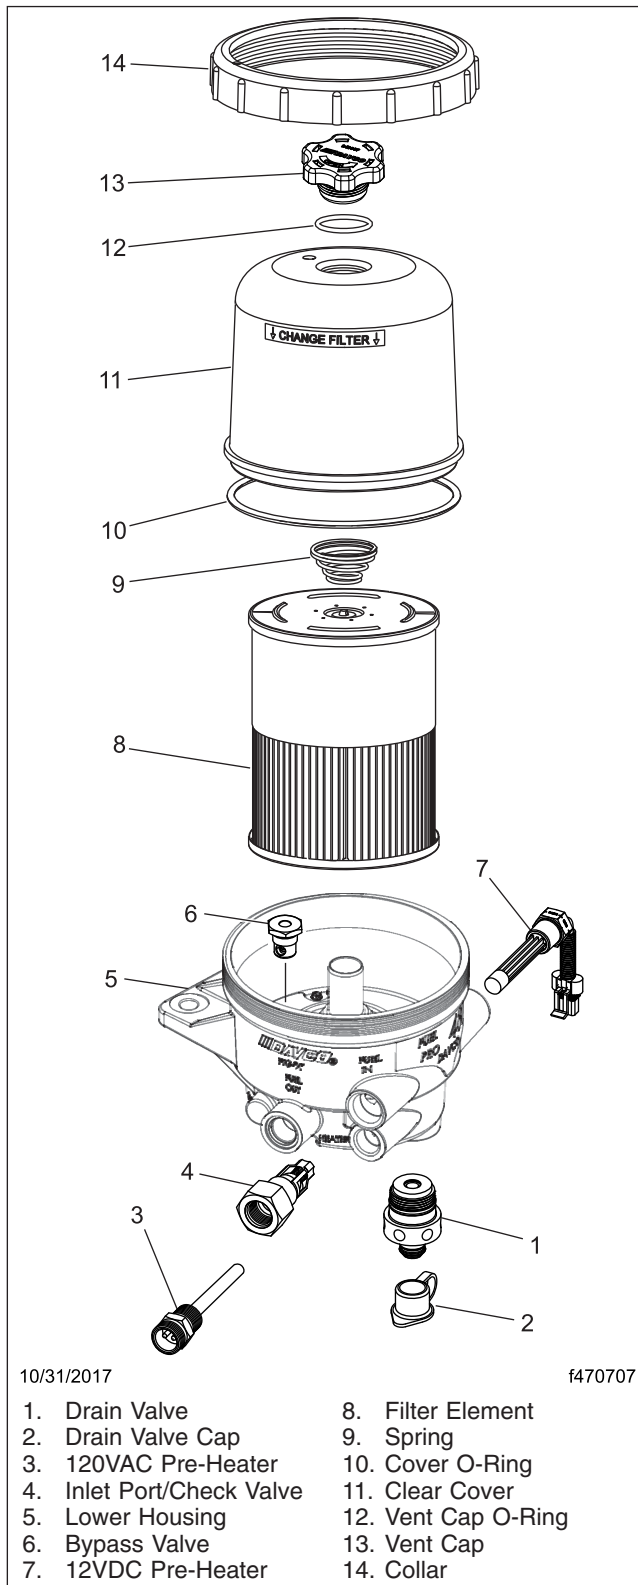

Fig. 5, DAVCO Fuel Pro 487
4. Remove the vent cap, shown in Fig. 5, to drain the fuel completely, then close the drain valve.
- Remove the filter, cover O-ring, and vent cap O-ring. Dispose of them in an environmentally acceptable manner. See Fig. 5.